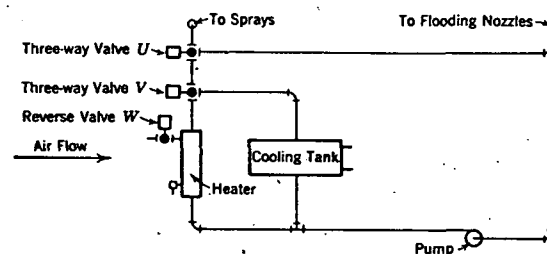

FIG. 15. CONTROL VALVES FOR A DEHUMIDIFYING AIR WASHER
4. Humidistat or wet-bulb thermostat *D* in return air, acting through relay, causes *C* to take outside air when the relative humidity rises above 55 per cent (or the wet-bulb temperature rises above 60 F); also, if necessary, shuts off the water supply to the spray heads in the air washer and opens the supply to the flooding nozzles at the eliminator plates, by operating three-way valve *U* (Fig. 15). The relative humidity must, of course, be changed to suit the requirements. It must be maintained low enough to avoid condensation on walls or windows\*.
5. Reverse-acting thermostat *E* in discharge end of air washer operates a three-way valve (*V*, Fig. 15) in water circulating line, so as to cause water to pass through or around a heating unit in order to produce the correct dew-point temperature by adding any necessary heat to the water. It may also operate reverse valve *W* (Fig. 15) in the steam supply to the heating unit. The heat added may be only that sufficient to make up the temperature drop through the washer, due to evaporation. This thermostat is reverse-acting to prevent over-humidification in case of failure of motive power.
2. Humidistat *D* is by-passed so that main power is applied direct to three-way valve *U* (Fig. 15) to prevent shutting off sprays. This by-pass can be arranged for cutting in manually, or automatically, with the starting of the refrigerating machinery.
3. Thermostat *E*, operating three-way valve *V* (Fig. 15), now determines whether the spray water is passed through refrigerated coils or is recirculated without treatment, and thus regulates the dew-point temperature. It is assumed that steam and refrigeration are not both turned on at the same time.